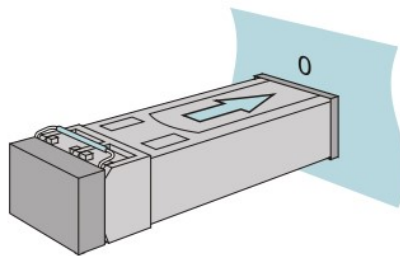

Figure 11: Install the SFP transceiver
- Push the SFP transceiver with the lock closed into the slot until it latches in, refer to figure 11 below.